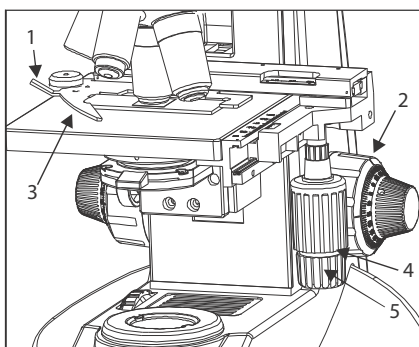

Fig. 17
Place the specimen gently on the stage. If the bow-shaped lever (3) is returned with a strong force or the control knob (1) or the bow-shaped lever is released in the middle, the slide glass may be broken. See figure 17.
1. Rotate the coarse adjustment knob (2) in anticlockwise direction to fully lower the stage.
2. Open the bow-shaped lever (3) outward by pulling on lever handle (1), place the specimen by sliding the specimen glass plate (s) on the stage from the front toward the slide seat at the rear.
3. After positioning your specimen slides, (2max) return the bow-shaped lever (3) gently by slowly releasing control knob (1).
4. Rotating the upper co-axial knob controlling the y-axis movement (4) moves the specimen in the vertical direction. Rotating the lower knob (5) moves the specimen in the X-axis or horizontal direction.